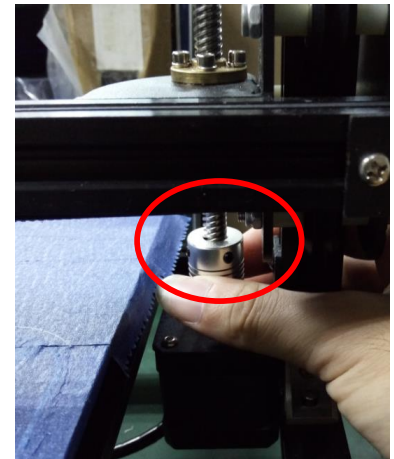

Fig 5: Adjust X-slide height
- 2、 Please leveling by hand when the automatic leveling function be fail to level Z-Axial platform (*fig5*).
4. Adjust the extruder to Middle position , then turn the right and left Z-coupling synchronously, until the distance about 0.5mm between the platform and the extruder(*fig5*) .